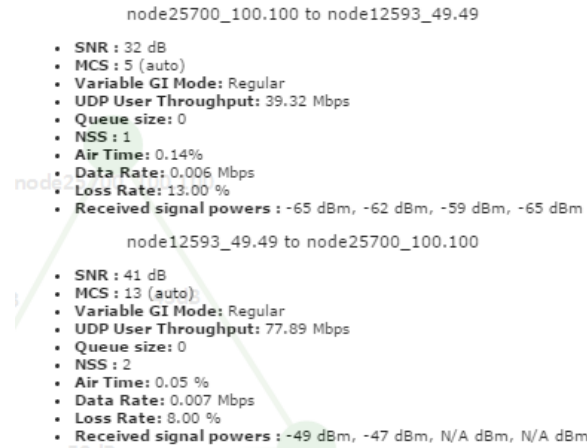

Figure 55 Link Characteristics
- Link Characteristics** – By simply rolling the mouse over any link in the network, users can view key operating characteristics of that link. **Figure 55 Link Characteristics** shows an example of this for the link between ‘node25700’ and ‘node12593’. The characteristics shown are: